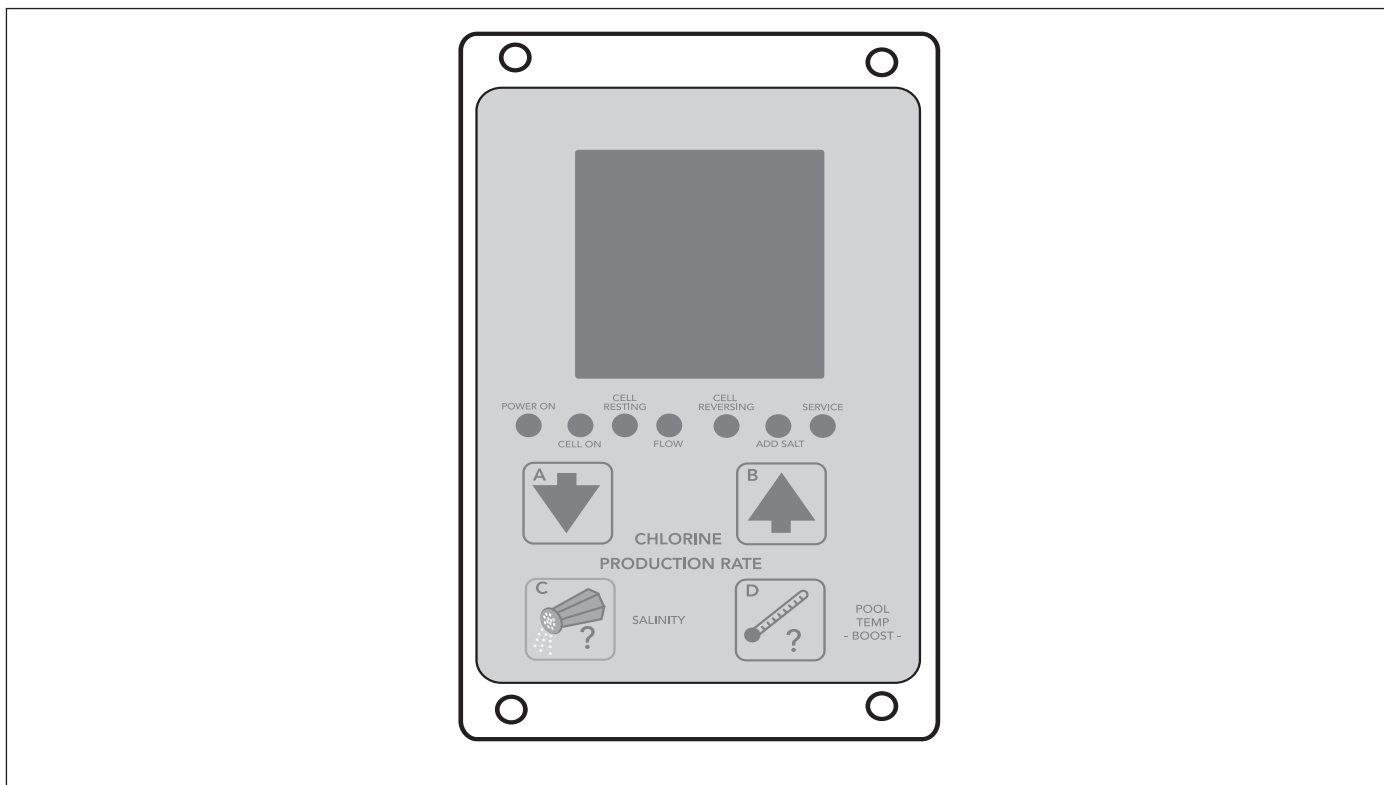

Figure 18. User Interface
**NOTE** The user interface is located inside the control/power center. To access the control panel, open the door to the control/power center. See Figure 18.